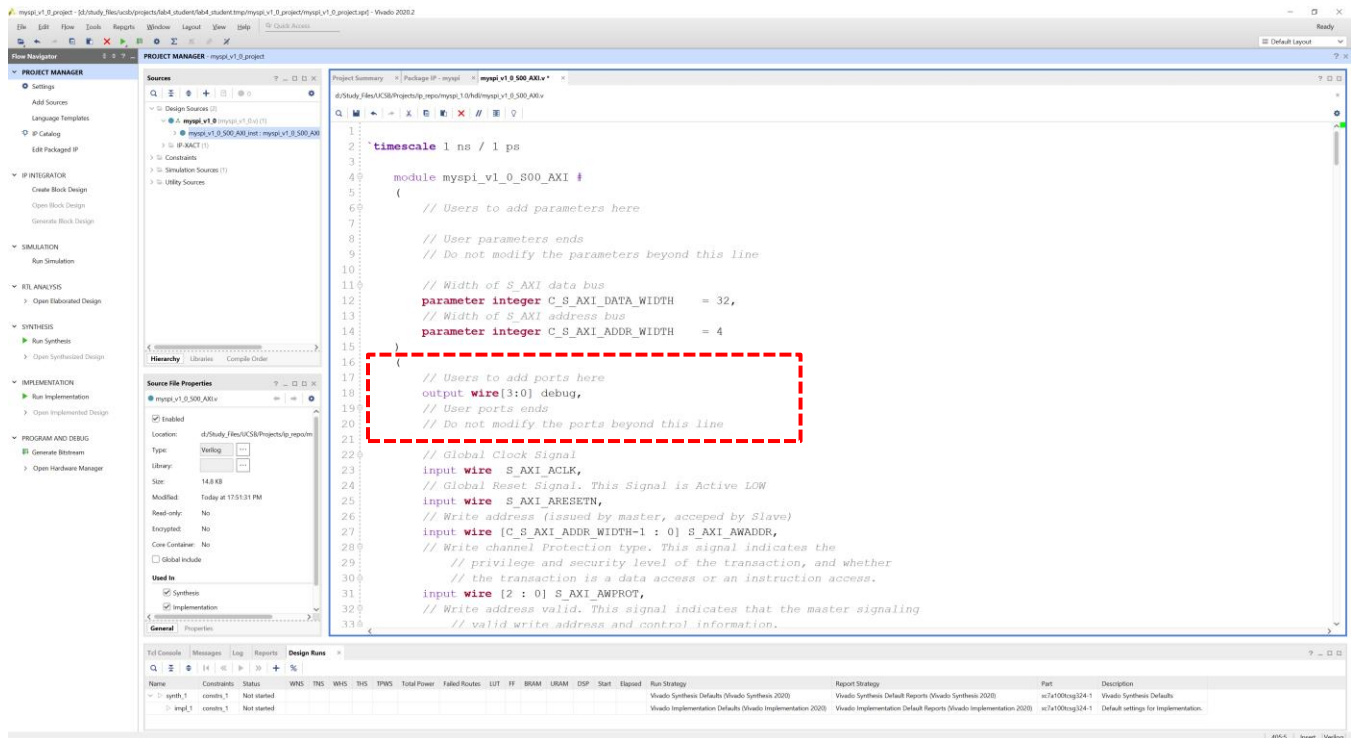

Figure 13: Add debug port to the design.
- 1) As in Figure 13, declare a four-bit output wire "debug".